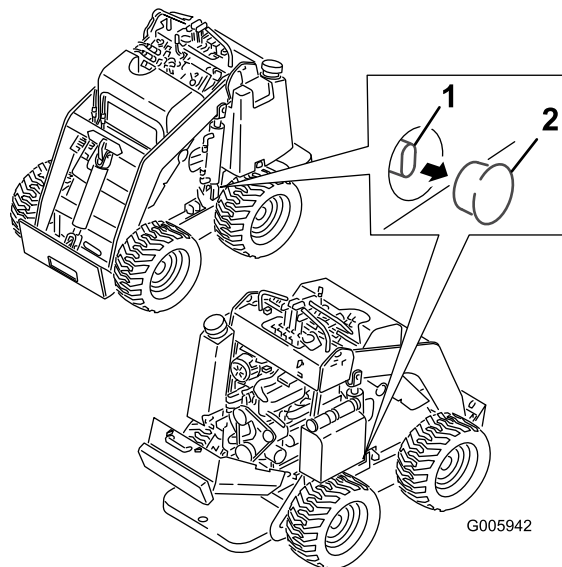

Figure 14
2. Remove the plug covering each tow valve (Figure 14).